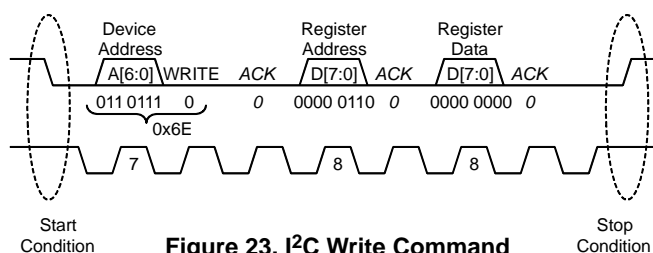

Figure 23. I2C Write Command
Figure 23 shows an I2C write operation. Write transactions begin with the master sending an I2C start sequence followed by the seven bit slave address (NOA3315W = 0x37) and the write(0) command bit. The NOA3315W will acknowledge this byte transfer with an appropriate ACK. Next the master will send the 8 bit register address to be written to. Again the NOA3315W will acknowledge reception with an ACK. Finally, the master will begin sending 8 bit data segment(s) to be written to the